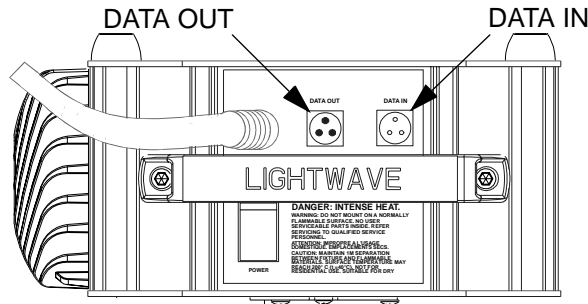

Figure 1.9 Data In and Data Out Connectors
1. Connect the data cable from the controller to the DATA IN connector located on the side of the first fixture. Refer to Figure 1.9.
2. Turn on the breaker located next to the line cord on the side of the fixture. Refer to Figure 1.9. The fixture will home.